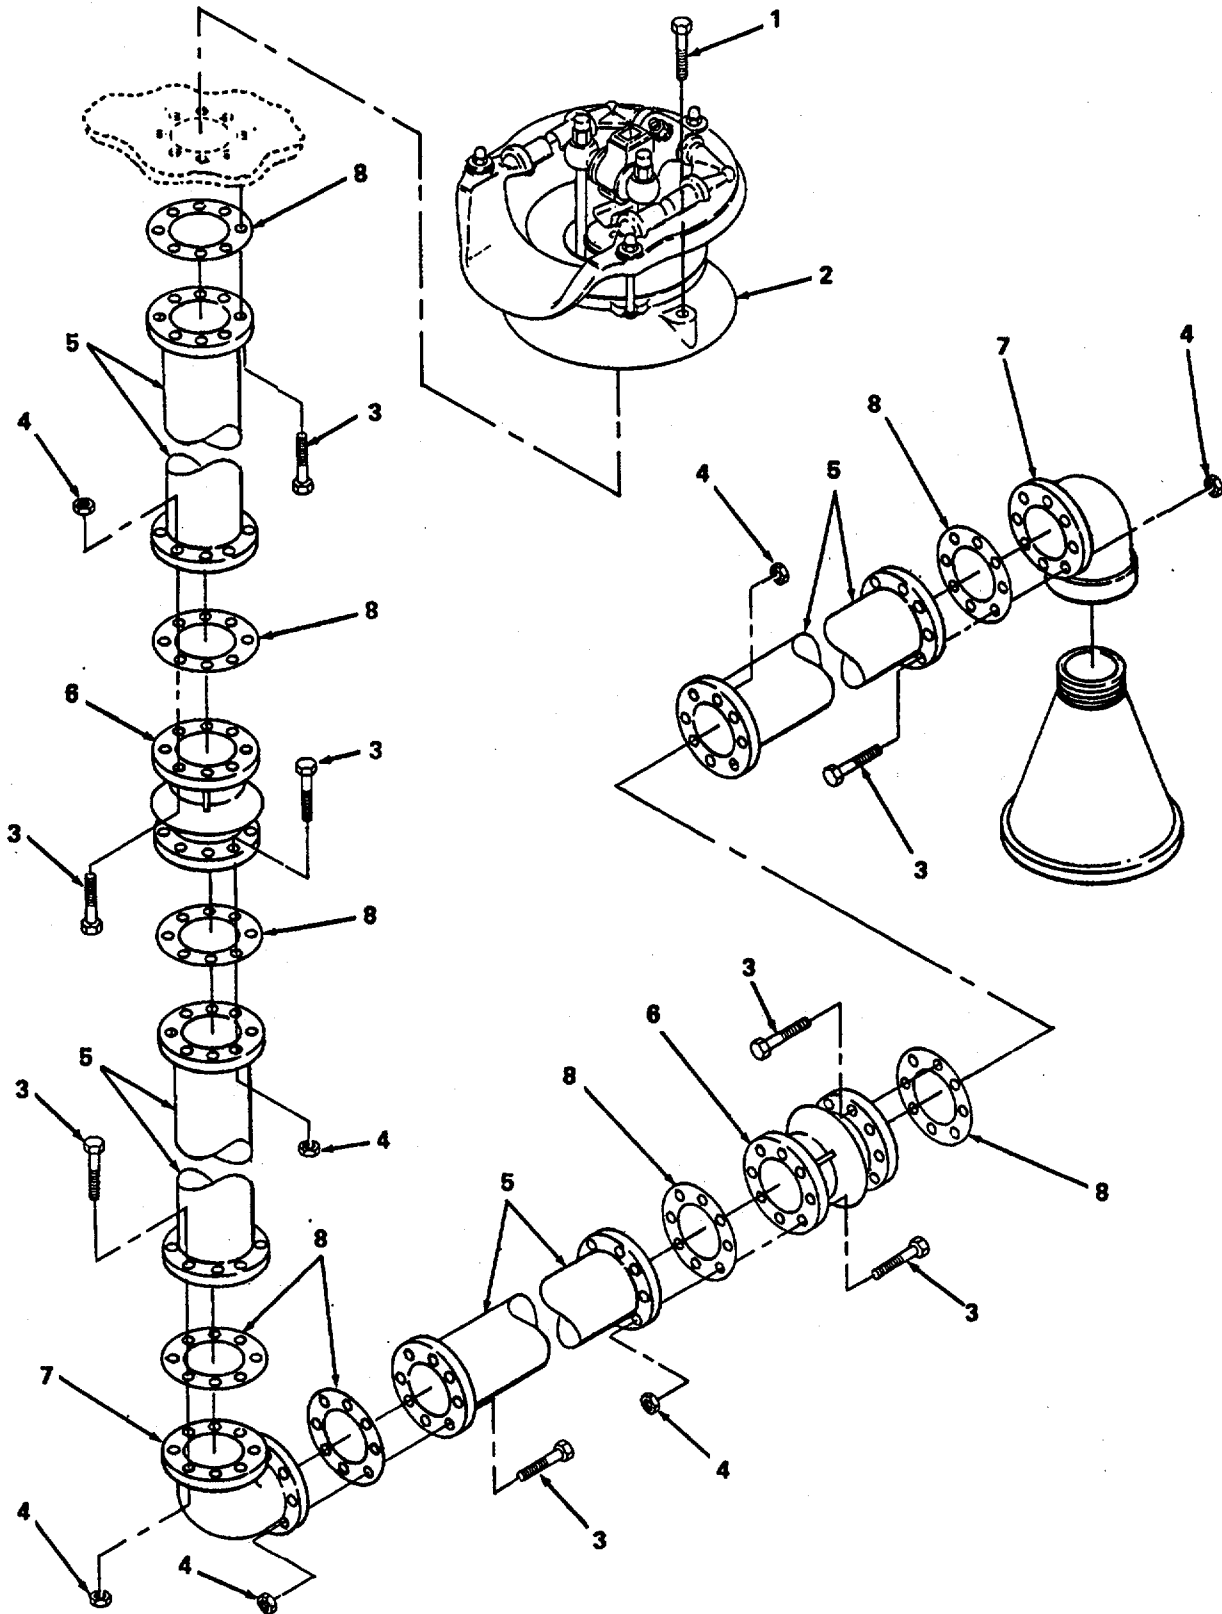

Figure 5-5. Bilge Pump and Piping Removal.
- (1) Remove bilge pump.
Remove screws (1, figure 5-5) securing bilge pump base (2) to deck and lift pump from deck mounting.
- (2) Remove bilge suction piping.